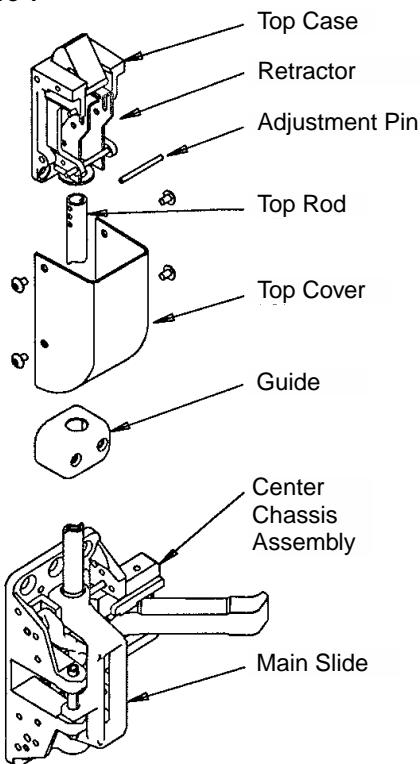

Figure 2
4. Mount bottom case in same manner as top case. (See Figure 2.) Refer to Figure 3 for various strike applications.